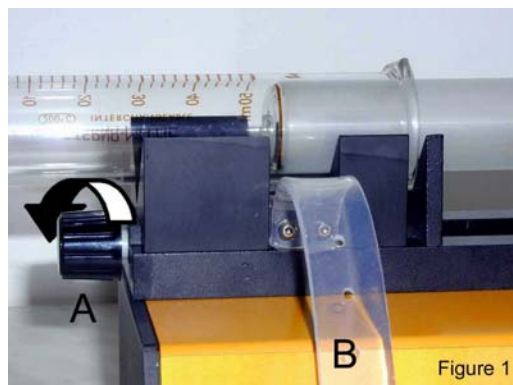

Figure 1
- Place the syringe in the syringe bed (figure 1).